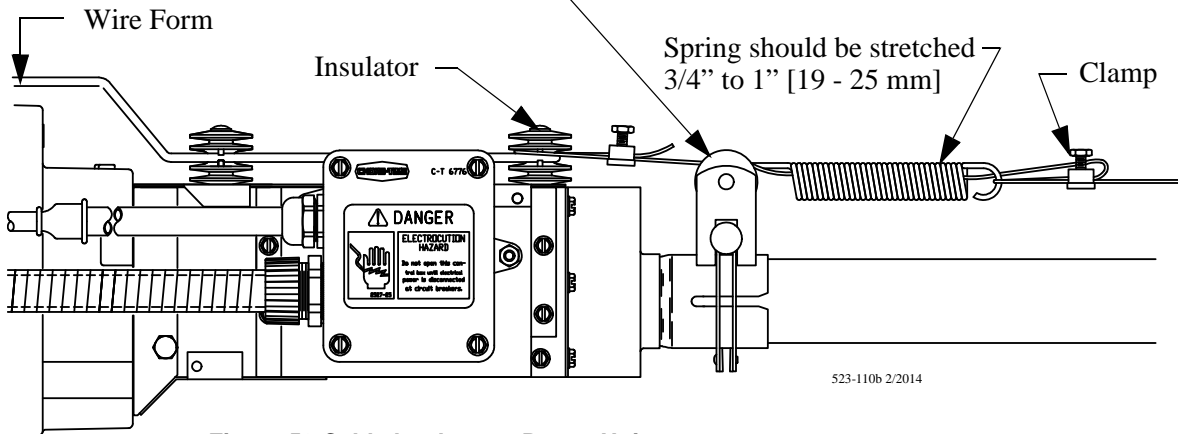

Figure 59. Cable hook up at Power Unit.
9. At the control unit, after clamping the cable to the spring, cut the cable about 8" to 10" (200 to 250 mm) longer than necessary. Feed the end of the cable through the center of the spring, around the first insulator on the control unit, and clamp the cable using the cable clamp supplied with the control unit. See **Figure 59**.
10. Install the wire form on the control unit insulators. Be sure the guard snaps into the retainers molded into the insulators. See **Figure 59**. At the control unit, after clamping the cable to the spring, cut the cable about 8" to 10" (200 to 250 mm) longer than necessary. Feed the end of the cable through the center of the spring, around the first insulator on the control unit, and clamp the cable using the cable clamp supplied with the control unit. See **Figure 59**.